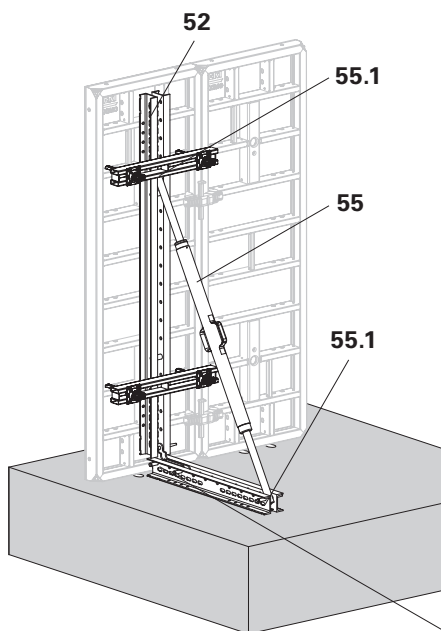

Fig. D1.04
4. Spindle out the Heavy-Duty Spindle SLS (55), and attach to the Steel Walers SRU 247 and SRU 122 using Fitting Pins and Cotter Pins (55.1). (Fig. D1.04 + D1.05)